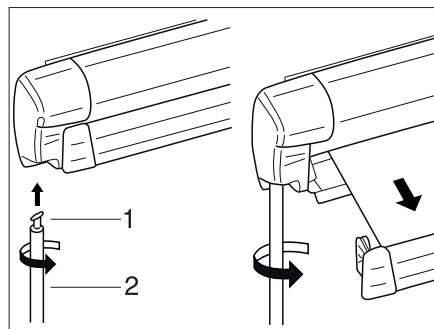

Fig. 35 Awning
- Insert the hook (Fig. 35,1) of the crank rod (Fig. 35,2) into the lug and turn by 90°.